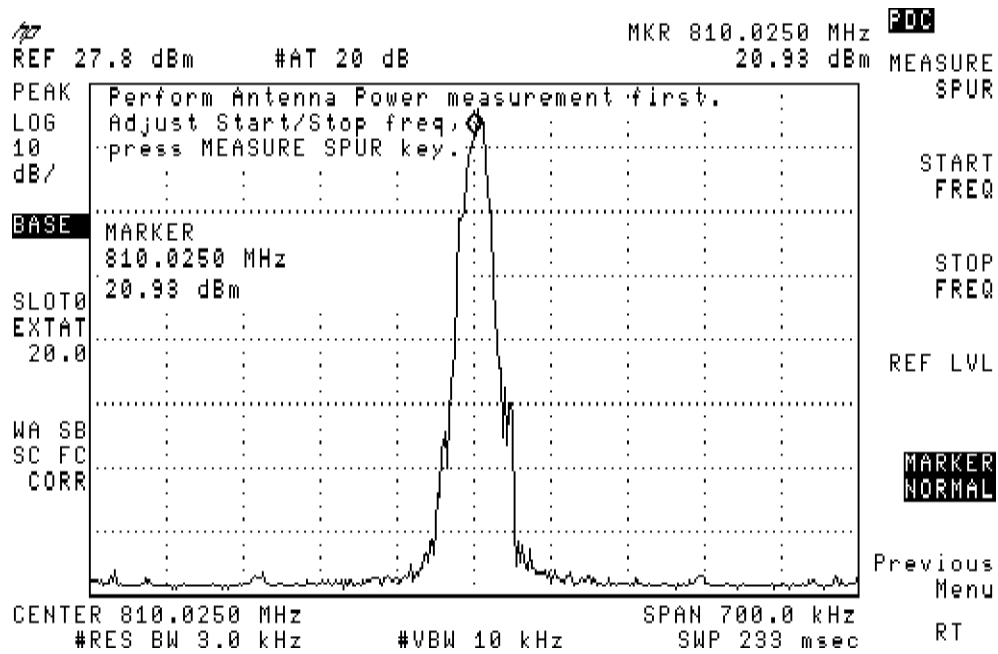

Figure 4-29. Spurious Emission Procedure
3. Press **SPURIOUS ADJACENT**. The personality will set the center frequency at the carrier frequency, set a span of 700 kHz, and set the input attenuator to a value determined by the antenna power. See Figure 4-29.